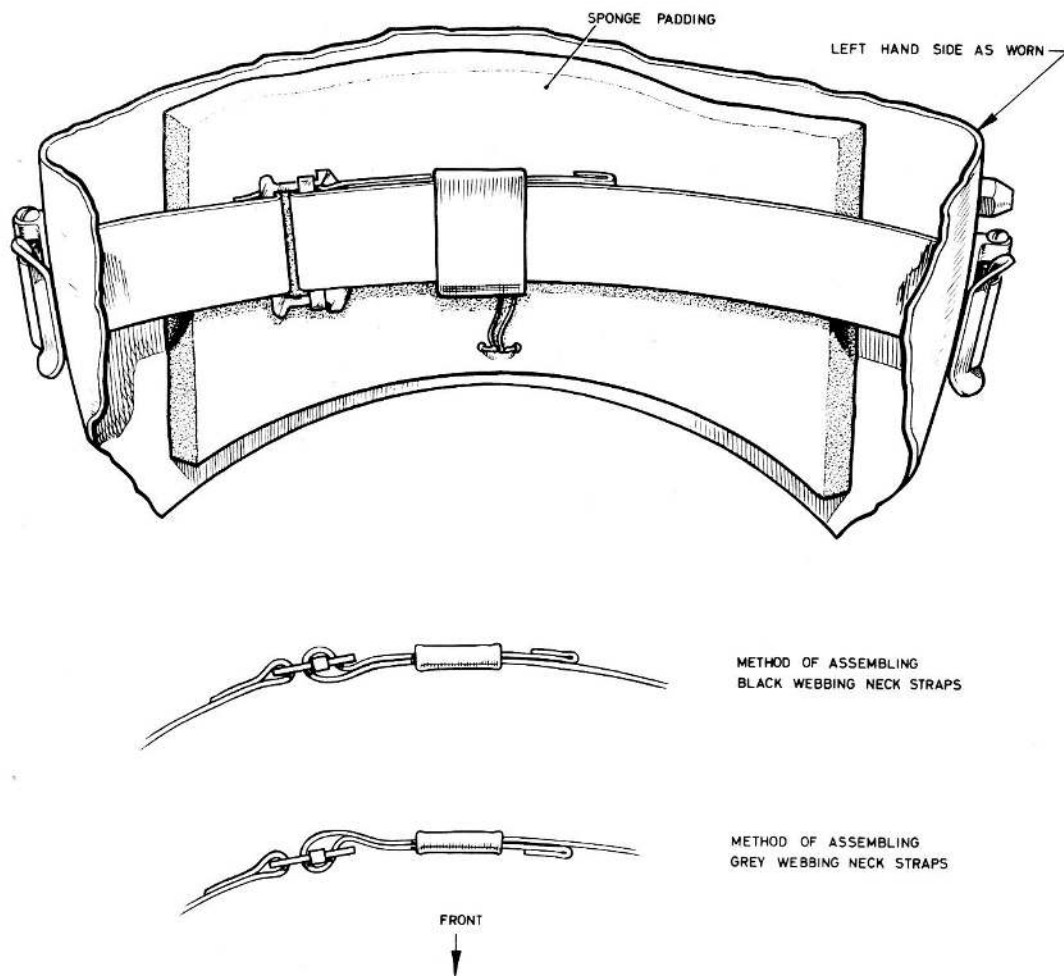

Fig. 8 Assembly of neck straps
- (3) Turn down the neck pad. Disconnect the ends of the neck strap from the adjuster buckle.
- (4) Remove the screws, on which the toggle buckles hinge, on each side of the helmet.
- (5) Draw out the two halves of the strap through the slots in the shell.
- (6) On re-assembly the free end of the left-hand strap (as worn) must pass through the buckle from front to back and be threaded back over the buckle bar and through the becket so that the loose end is behind, facing the shell. Some helmets are fitted with a grey neck strap. In this case the strap passes through the buckle in the reverse direction so that the loose end finishes in front (see *fig. 8*).